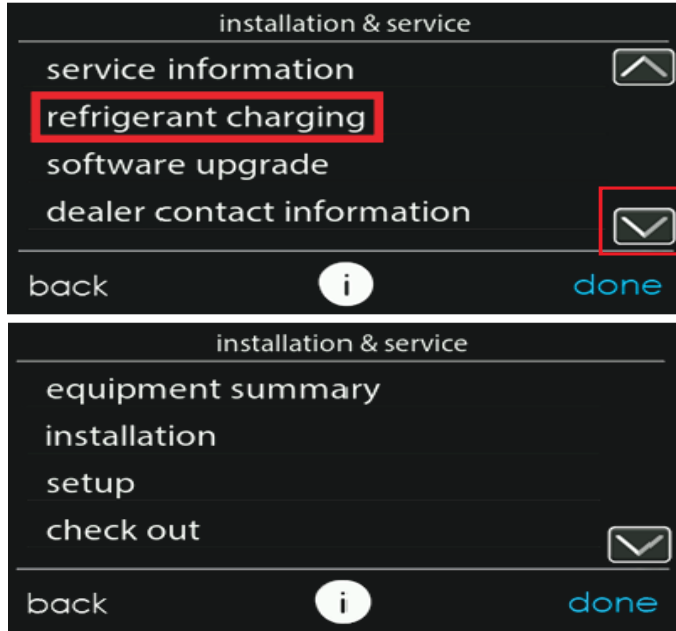
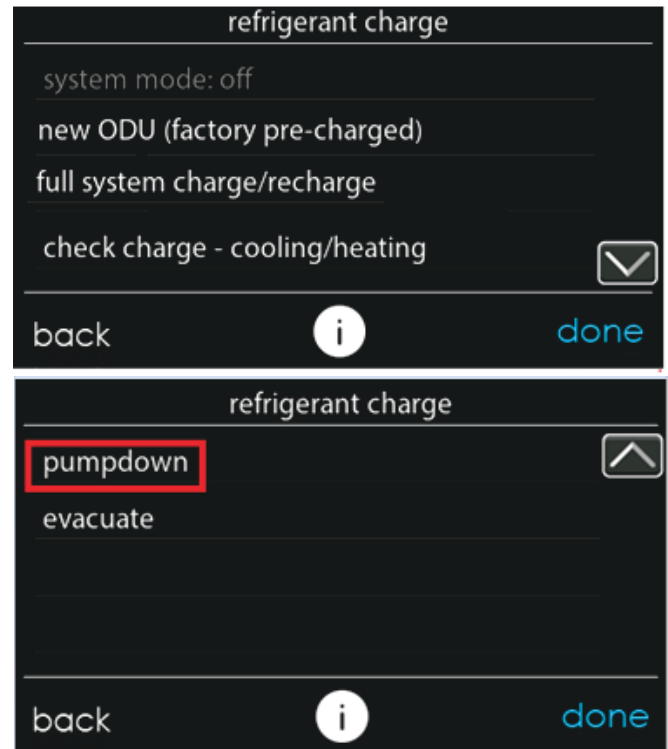

Fig. 13 – Installation and Service Menu
Fig. 24 – Pump Down and Evacuation Selection
5. Navigate to the “Installation and Service menu” by performing a long press on the service icon from the main screen (see Fig. 12). Once in the “Installation and Service” menu, select “Refrigerant Charging” (see Fig. 13).
2. In the “installation and service” menu of the Infinity® System Control (see Fig. 12), go to “refrigerant charging” and then “pump down” (see Fig. 13 and Fig. 24).